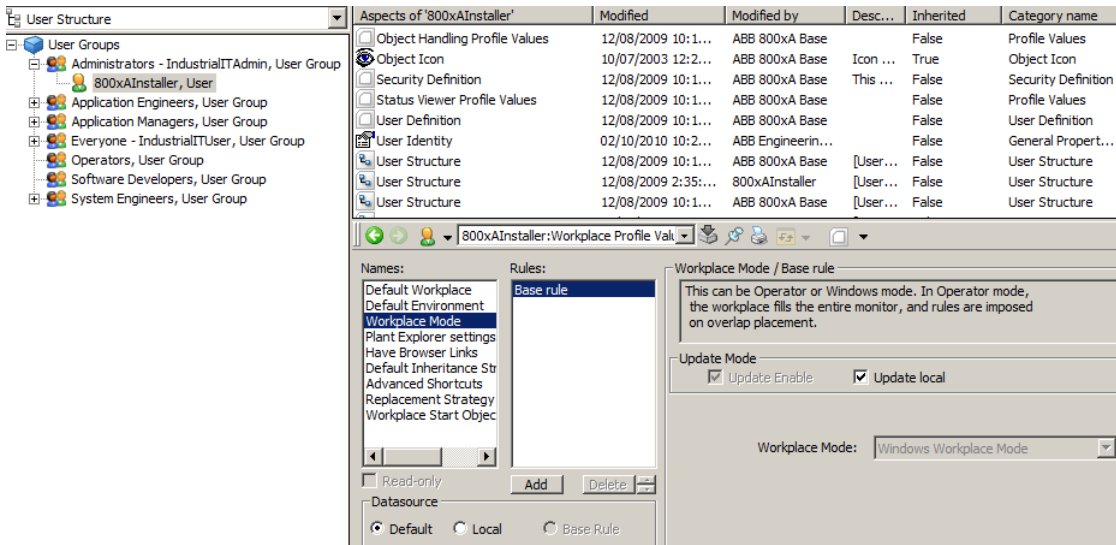

Figure 41. Workplace Mode
- f. For the **WorkplaceMode** mark the **Local** radio button and select **Operator Workplace Mode** in the **Workplace Mode** field, see Figure 41. Click **Apply**.